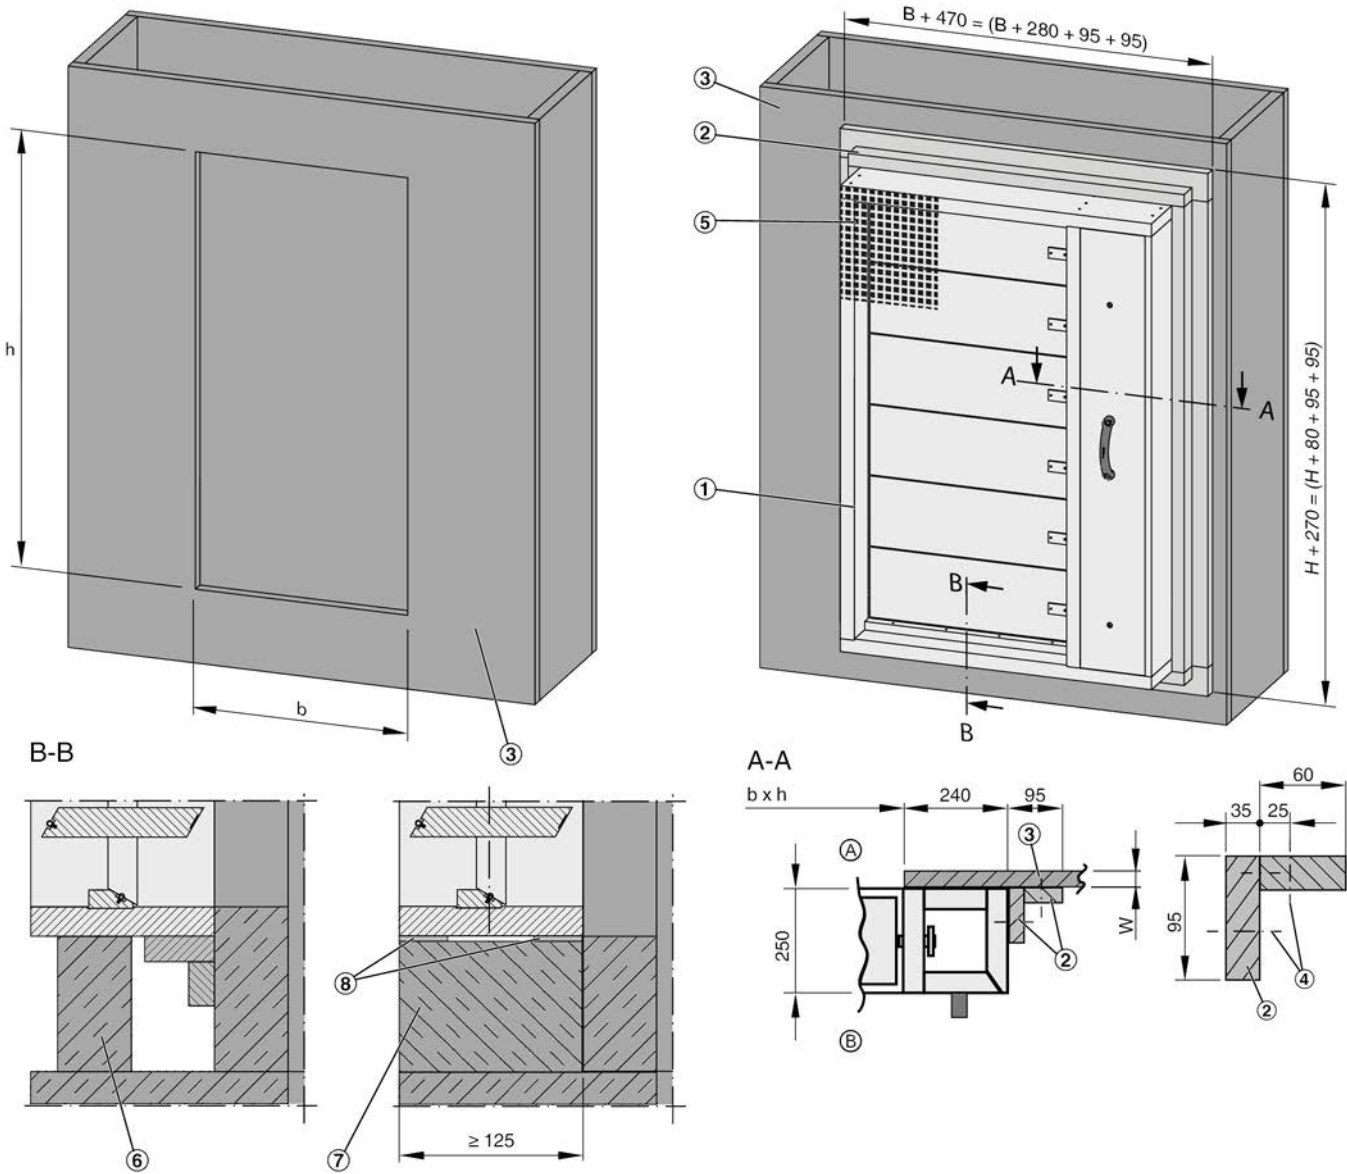

Fig. 29: Installation on a vertical smoke extract duct (shaft)
1. ▶ Create an installation opening according to Fig. 29 .
2. ▶ Use two strips of fire-rated board to make an angle section ( Fig. 29 /2), then fix the angle section to the underside of the smoke control damper.
Apply glue (e.g. K84, Promat or equivalent) to the joints ( Fig. 29 /2) between the angle sections and between the angle sections and the damper casing, then fix the angle sections with dry wall screws  $4 \times 70 \text{ mm}$  to the damper casing (pre-drill holes,  $\varnothing 3 \text{ mm}$ ),  $\leq 150 \text{ mm}$  distance between screws.
5. ▶ Connect the smoke extract ducts (installation side and operating side) to the smoke control damper ( Fig. 29 /5), ↪ 6 'Smoke extract duct and cover grille' on page 65 .